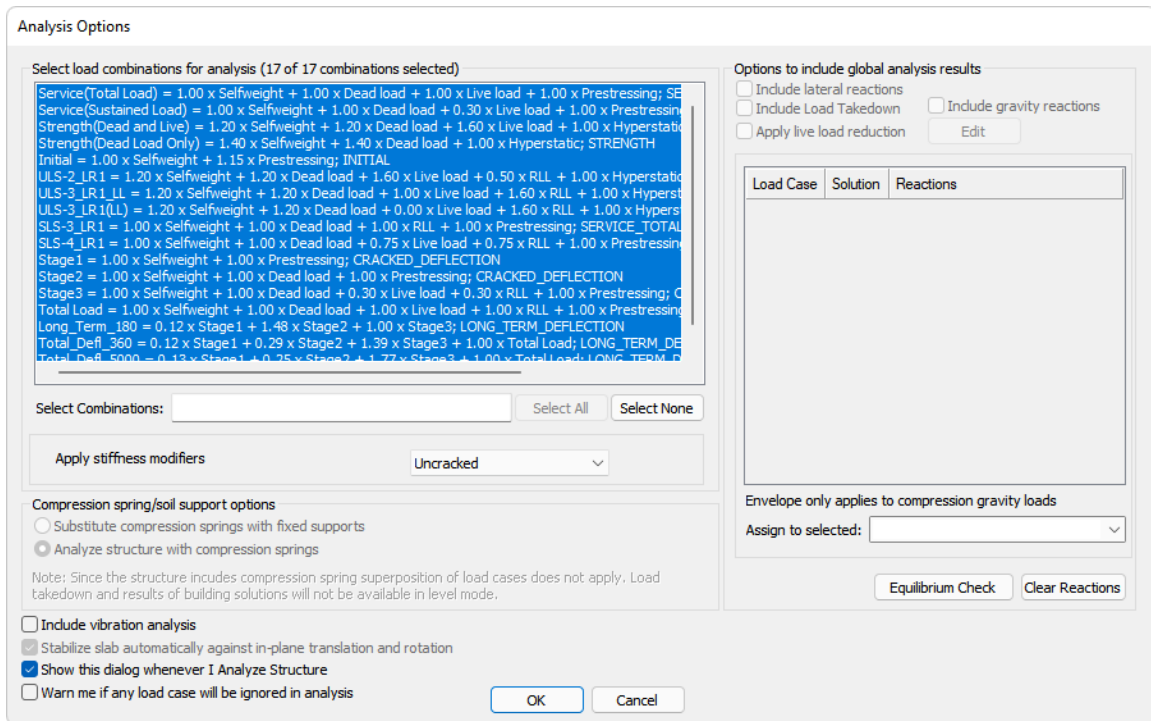

FIGURE 7-10
- Go to *Analysis->Analysis* and click on the **Execute Analysis**  icon. This will bring up the *Analysis Options* window as shown in **FIGURE 7-10**.